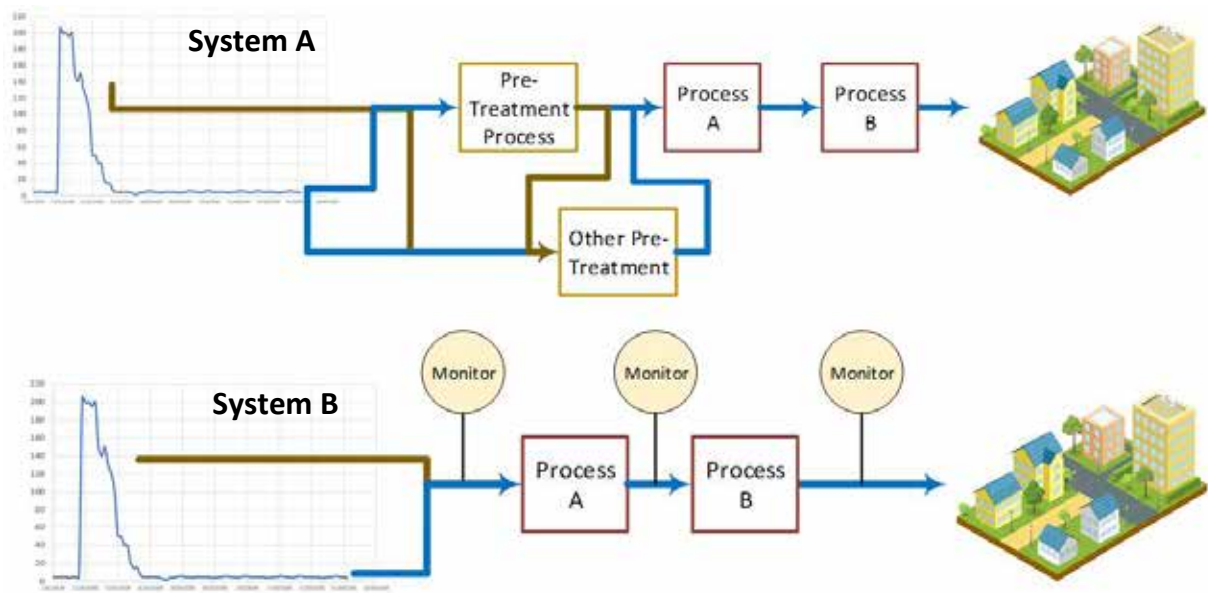

Figure 4: Treatment Configuration and/or Operational Scenarios: System A – Flexible Configuration, and System B – Optimised Monitoring
- Increased treatment flexibility through the addition of new treatment processes to target specific hazards (System A in Figure 4, over the page).
- Increased monitoring at operational and critical control points (OCPs and CCPs) along the treatment train with targeted operational changes to mitigate risks in real time (System B in Figure 4).